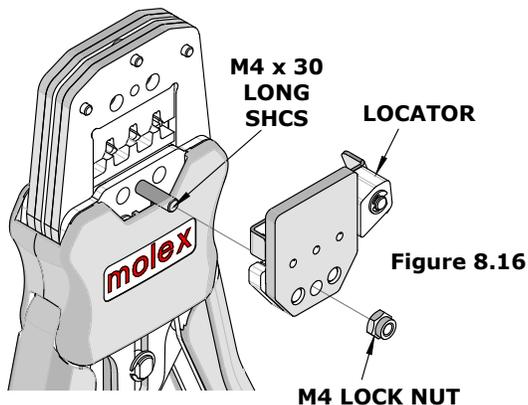

Figure 8.16
2. Loosen and remove the pegs on the locator assembly from the mating holes on the back side of the power crimp head. See Figure 8.16.